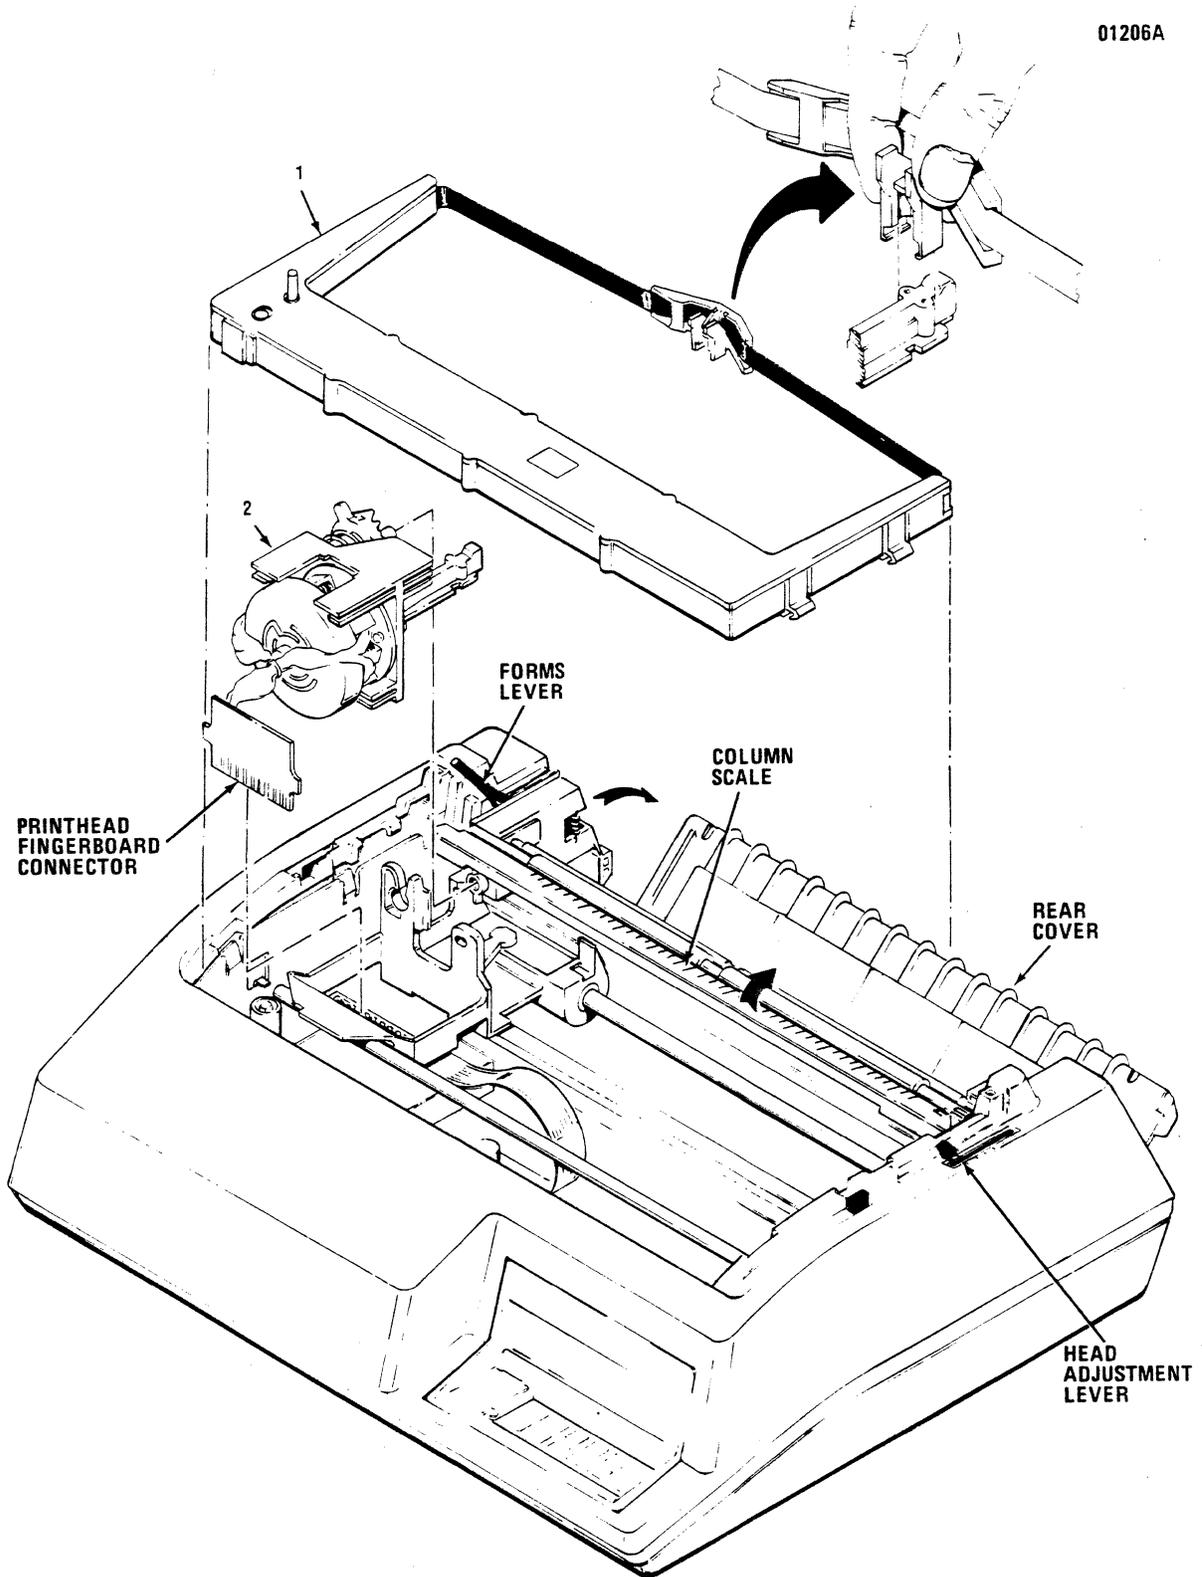

Figure 3-3 Removal/Replacement, Ribbon Cassette and Guide, Print Head Assembly
The ribbon cassette, item 1 of Figure 3-3, is mounted to the left and right side frames. The ribbon guide is mounted over the front of the print head. No tools are required to remove the cassette or guide. To remove the cassette and guide, refer to Figure 3-3 and perform the following steps:
4. Place the forms lever in the **LOAD** position as shown in Figure 3-3.
6. Pull the head adjustment lever to its maximum position, as shown in Figure 3-3.
8. Lift the used ribbon cassette and guide (1) up and out of the printer.
The print head assembly, item 2 in Figure 3-3, attaches to the carriage; no tools are required to remove the print head. To remove the print head, refer to Figure 3-3 and perform the following steps:
4. Place the forms lever in the **LOAD** position, as shown in Figure 3-3, and lift the column scale into the up position.
5. Position the head adjustment lever in the maximum position, as shown in Figure 3-3.
8. To remove the print head (2) simultaneously pull the head toward the front of the printer and lift the head up and out of the printer.
The head flex cable, item 1 of Figure 3-4, connects the print head assembly and the Print Controller pcb. To remove the head flex cable, refer to Figure 3-3 and perform the following steps:
4. Remove the print head fingerboard connector P704 from the head adapter pcb connector J704 by lifting the connector upward (see Figure 3-3).
9. Disconnect the head flex cable (1) connector P703 from connector J703 on the Head Adapter pcb.